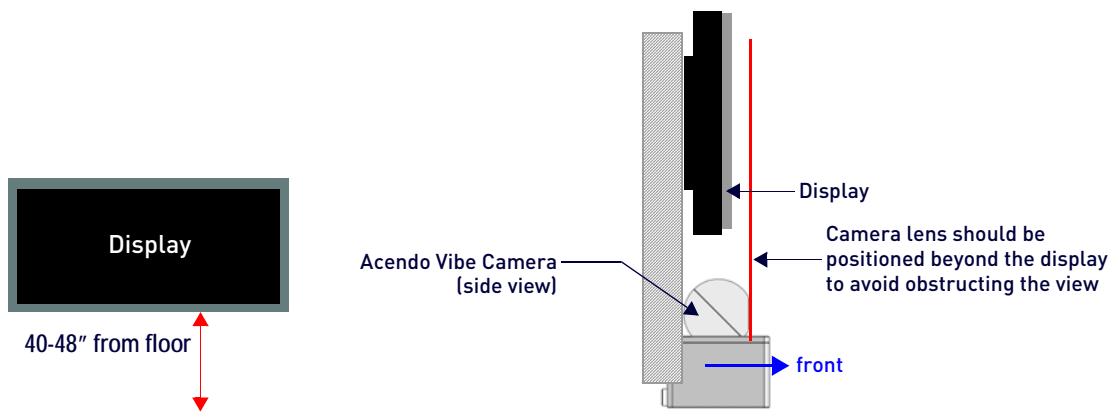

FIG. 8 Acendo Vibe Wall Mount Considerations
- **Distance between conference table and display:** The closer the table is to the wall-mounted display, the lower the display should be mounted. As a general guide, the display should be mounted between 40" and 48" from the floor (see FIG. 8 on page 9).